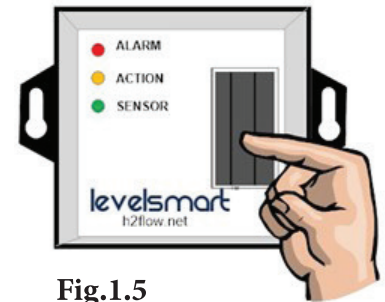

Fig.1.5
- a. Hold the magnet to the face of the Valve Controller in the position shown (Fig.1.5) for 2-4 seconds and remove it; the red ALARM LED should be observed to indicate correct magnet placement. Note that the positioning of the magnet is not always exact.
- b. Once the magnet has been removed, the ACTION LED will illuminate for five (5) seconds. When this occurs, the valve will open for five (5) seconds before closing. Confirm that the valve is open by listening for a click from the valve solenoid as soon as the magnet is removed and the ACTION LED illuminates. You may also hear water flowing through the valve. At the end of five (5) seconds, the ACTION LED will go off and the valve will close.